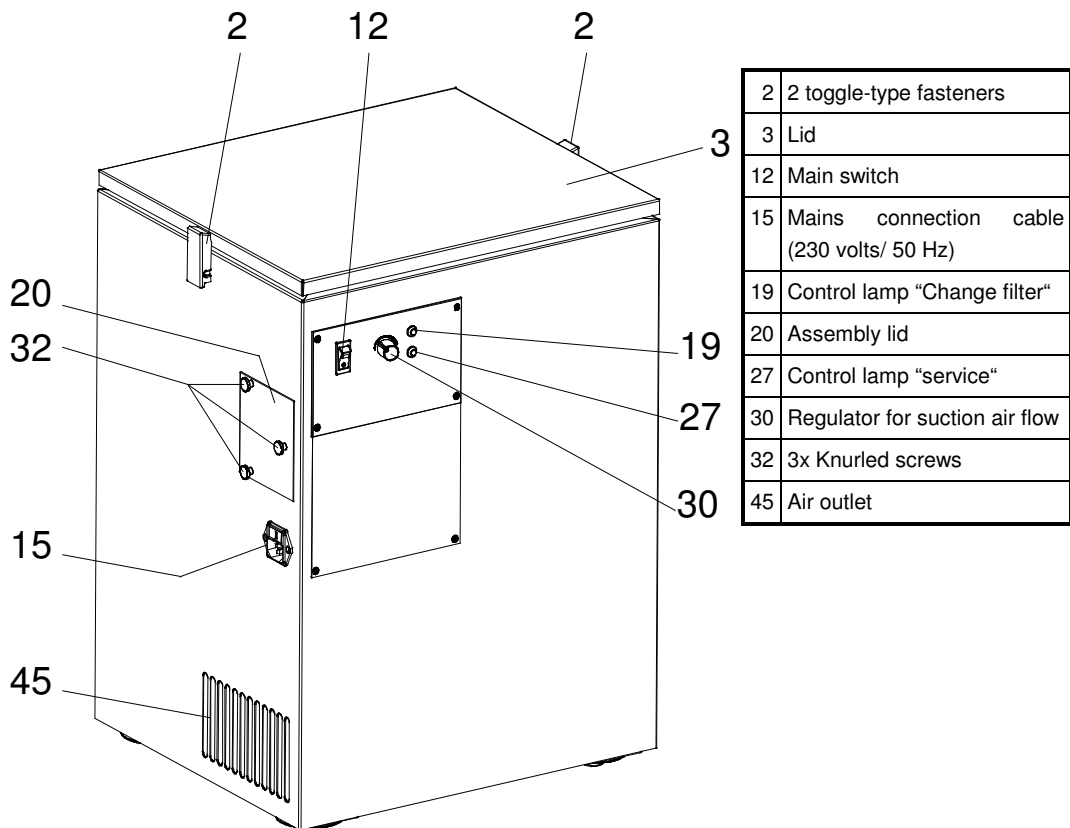

Fig. 1: Front left view
(See fig. 1, page 4)
(See figures 1 and 2 on pages 4 and 5)
- To tap the filter bag (14) open the toggle-type fasteners (2) and take off lid (3) (see figures 1 and 2).